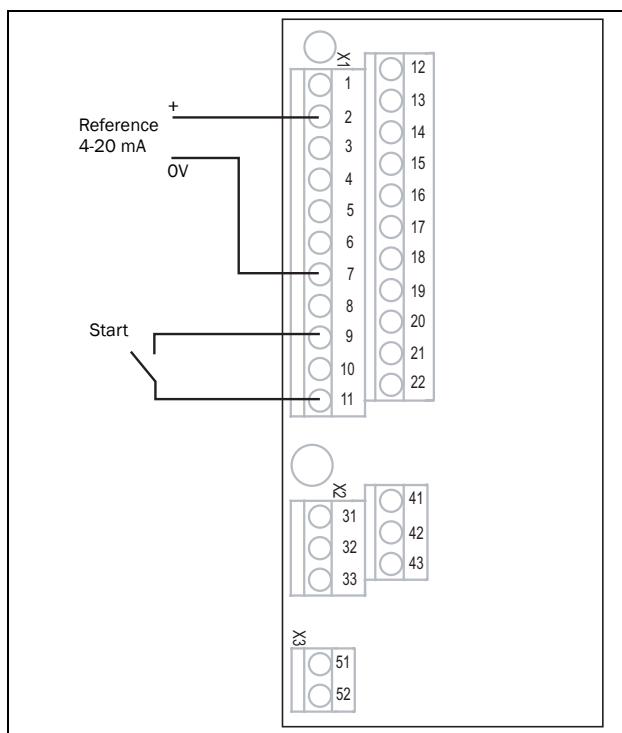

Fig. 39 Wiring
3. Connect a reference value between terminals 7 (Common) and 2 (AnIn 1) as in Fig. 39.
4. Connect an external start button between terminal 11 (+24 VDC) and 9 (DigIn2, RUNR) as in Fig. 39.
14. Connect digital and analogue inputs/outputs as in Fig. 39.